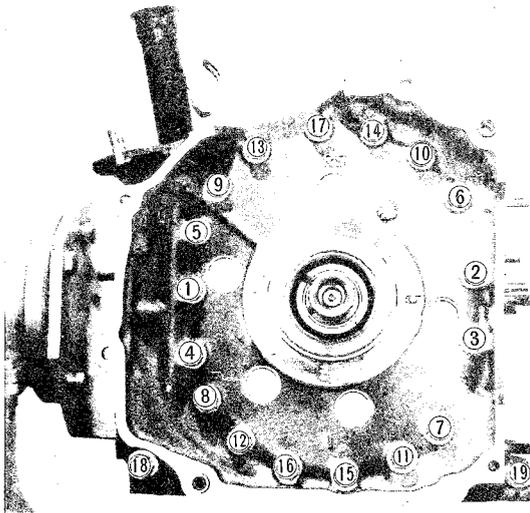

Fig. 1-72 Tension bolt tightening order
3. Fit the tension bolts and tighten the bolts in the order shown in Fig. 1-72. The specified torque is 3.2 ~ 3.8 m-k_g (23 ~ 27 ft-lb). Do not tighten the tension bolts at one time.